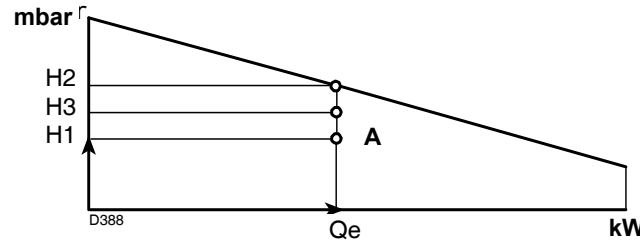

Fig. 41
point A that must remain within the firing rate (Fig. 41).
- 4 - Trace a vertical line from point A, Fig. 41, and find the maximum pressure H2 of the firing rate.
If H3 is greater than H1, as in Fig. 41, the burner can produce the delivery requested.